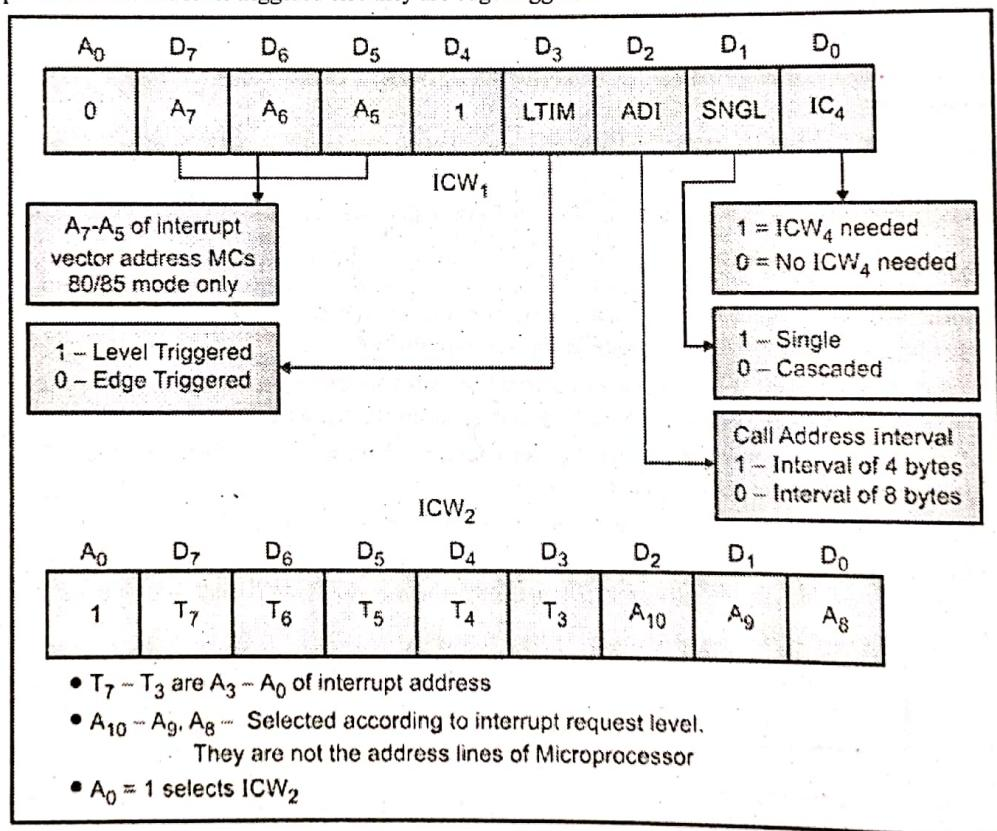

Fig.1-Q.1(d) : Format of ICWs
The Fig.1-Q.1(d) below show the formats of ICWs.
- ICW1 is compulsory as seen in Fig. 1-Q. 1(d). The address bit, A_0 must be '0' while giving the Initialization control word 1 to the 8259 chip.
- ICW2 is compulsory as seen in Fig.1-Q.1(d). The address bit, A_0 must be '1' while giving the Initialization control word 2 to the 8259 chip.